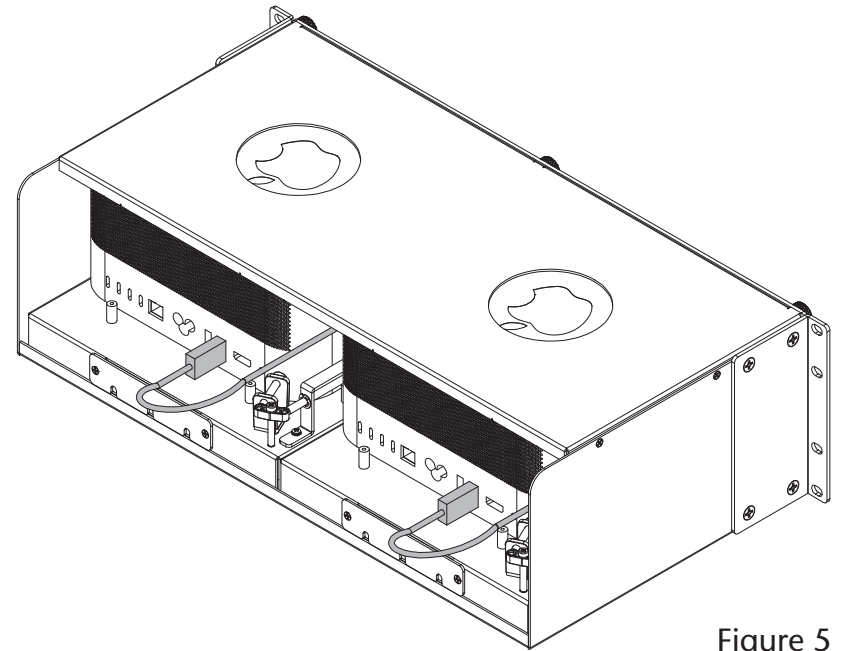

Figure 5
7. Connect the front panel USB cables to the computers (**Figure 5**).